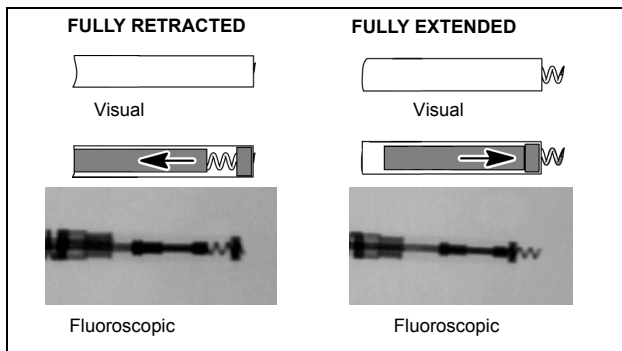

Figure 14. Possible views of the helix electrode.
2. Apply forward pressure to the lead body to position the distal electrode against the desired fixation site and rotate the fixation tool *clockwise* to affix the distal electrode helix into the heart wall. View the radiopaque markers under fluoroscopy to identify when the fixation helix is fully extended. Full extension is achieved when the radiopaque markers are joined and the fixation helix is extended outside the distal fluoroscopy markers (Figure 14). Refer to the Specifications section on Page 31 for the expected number of turns to extend or retract the helix.